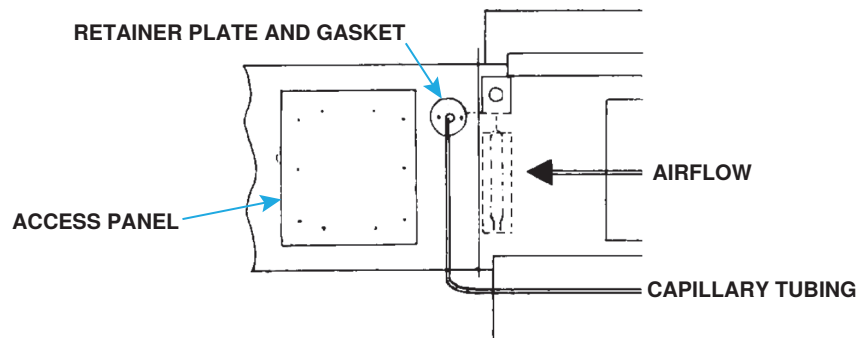

Figure 22. Capillary Sensor Installation
- (2) At selected ductwork location, mark and cut 1/2-inch hole that will be sealed with gasket and retainer plate (see Figure 22). Push sensor and capillary tubing through hole.
- (3) Remove ductwork access panel (see Figure 22) and install sensor in sensor holder so that it senses air temperature as it flows through holes in holder.
- (4) Position sensor holder and junction box assembly inside ductwork so that sensor will be shielded from direct airflow and secure junction box to ductwork using four field-supplied #6 sheet metal screws.
- (5) Slide gasket (cut slit) and retainer plate over capillary tubing. With gasket next to ductwork, install hole retaining plate and secure using field-supplied sheet metal screws.
- (6) Close ductwork access panel.